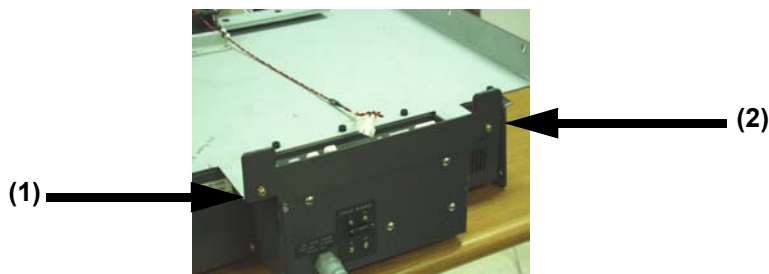

Figure 8-124 Removing the Rear Connector Bracket
- 1.) Unscrew two(2) screws (1-2) to remove rear connector bracket Refer to Figure 8-124 on page 8-75 ..